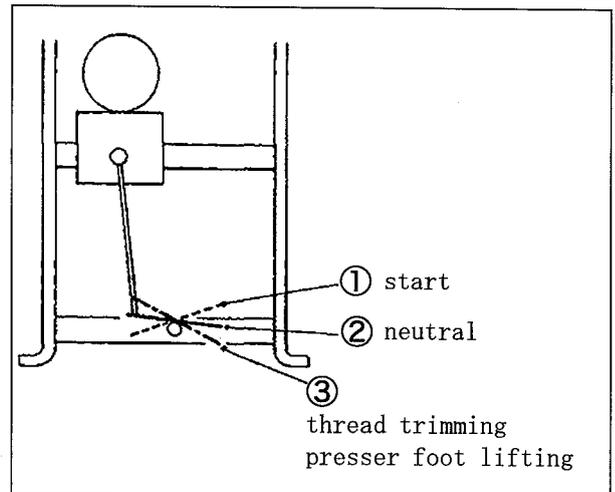

Fig. 21
- (1) Heel back the pedal to raise the presser foot.
(Fig. 21 ③)
- (2) Place the fabric under the presser foot and toe down the pedal. (Fig. 21 ①)
- (3) Release the pedal. (Fig. 21 ②)
- (4) Heel back the pedal. (Fig. 21 ③)
- (5) Release the pedal. (Fig. 21 ②)